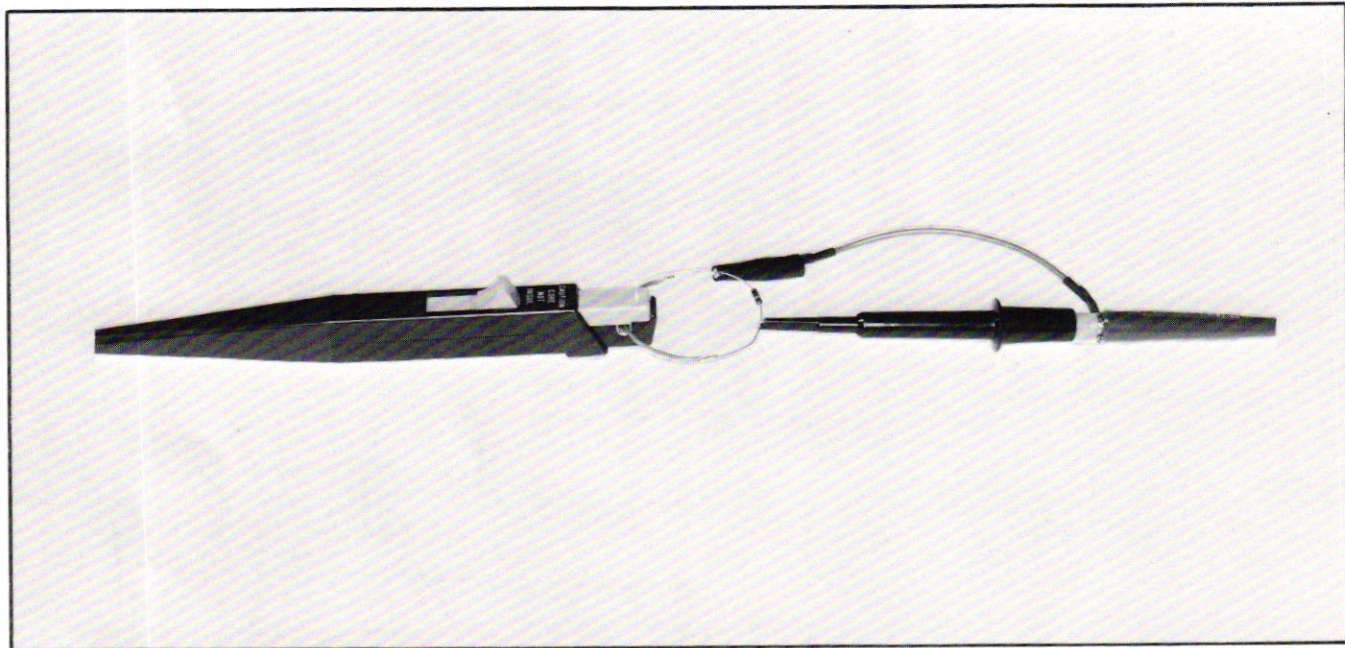

Fig. 6-9. Test setup for step 8.
d. Connect the  $1\times$  probe across the  $10\ \Omega$  resistor. See Fig. 6-9.